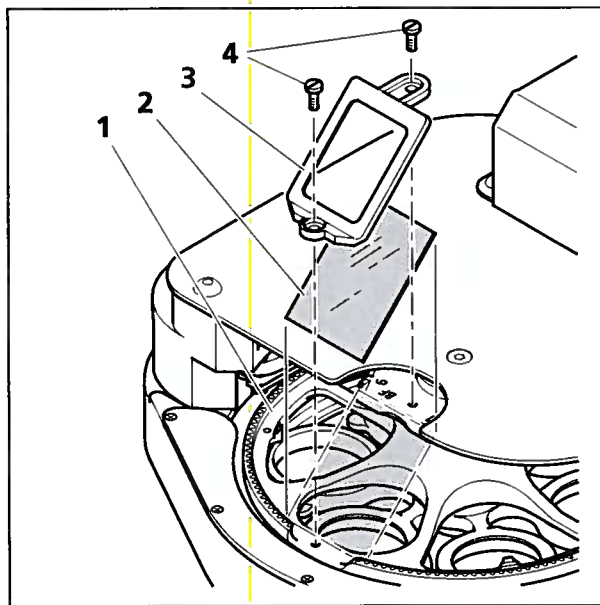

Fig. 6-19 Inserting the beam splitter
- Insert a new beam splitter (Fig. 6-19/2) into the position on the beam splitter wheel (Fig. 6-19/1). Take care not to contaminate the beam splitter. The mirrored side should face outwards (see also Section 6.6.1.4).
- Insert the mounting frame (Fig. 6-19/3) with the spring component.
- Insert the two screws (Fig. 6-19/4) on the mounting frame and tighten.